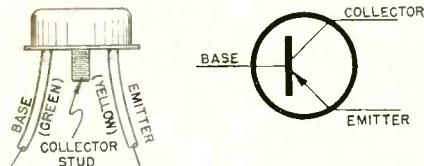

Fig. 7—Color coding used on the transistor terminal connections.
1. Unsolder base and emitter leads from the circuit. (See Fig. 7)